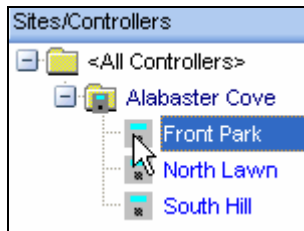

Figure 18.0.2
2. Select the Site / Controller that you want to perform the **Get Lights** on from the **“Site / Controller”** window. Make sure that it is highlighted (Figure 18.0.2).